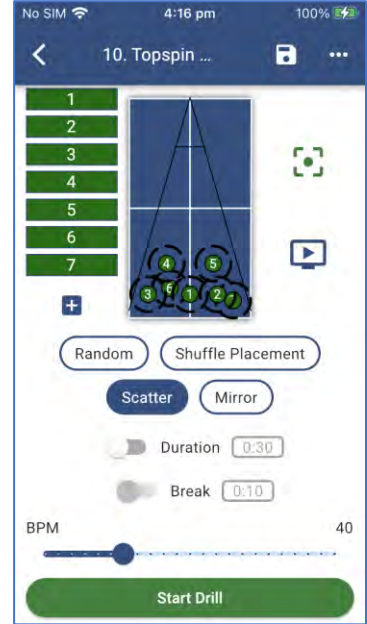

Figure 3-53
- **Scatter** - Adds more variability to the trajectory and placement. This mode is similar to the less precise shots that a human might deliver. The ball will be delivered within a 20cm diameter around the placement chosen on the screen – which is displayed on screen. (Figure 3-53)